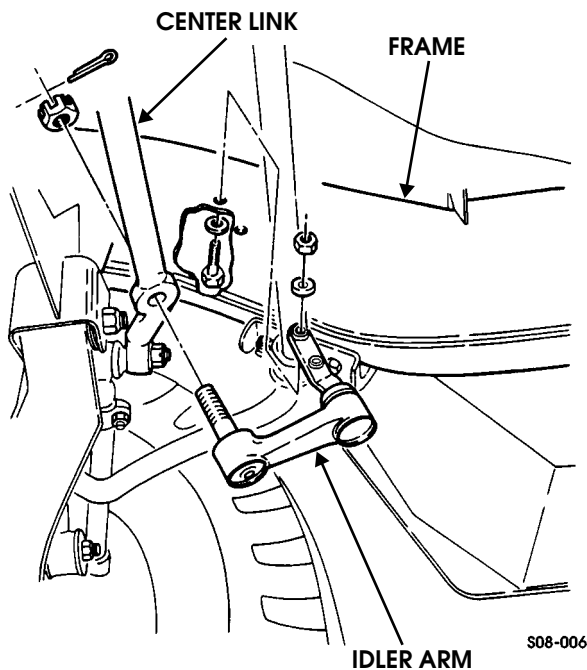

Figure 8-7: Idler Arm Removal
2. Remove cotter pin and slotted nut securing idler arm to center link (Figure 8-7).
1. Secure idler arm to frame with two washers, bolts, washers, and locknuts. Tighten locknuts to 60 lb-ft (81 N•m) (Figure 8-7).